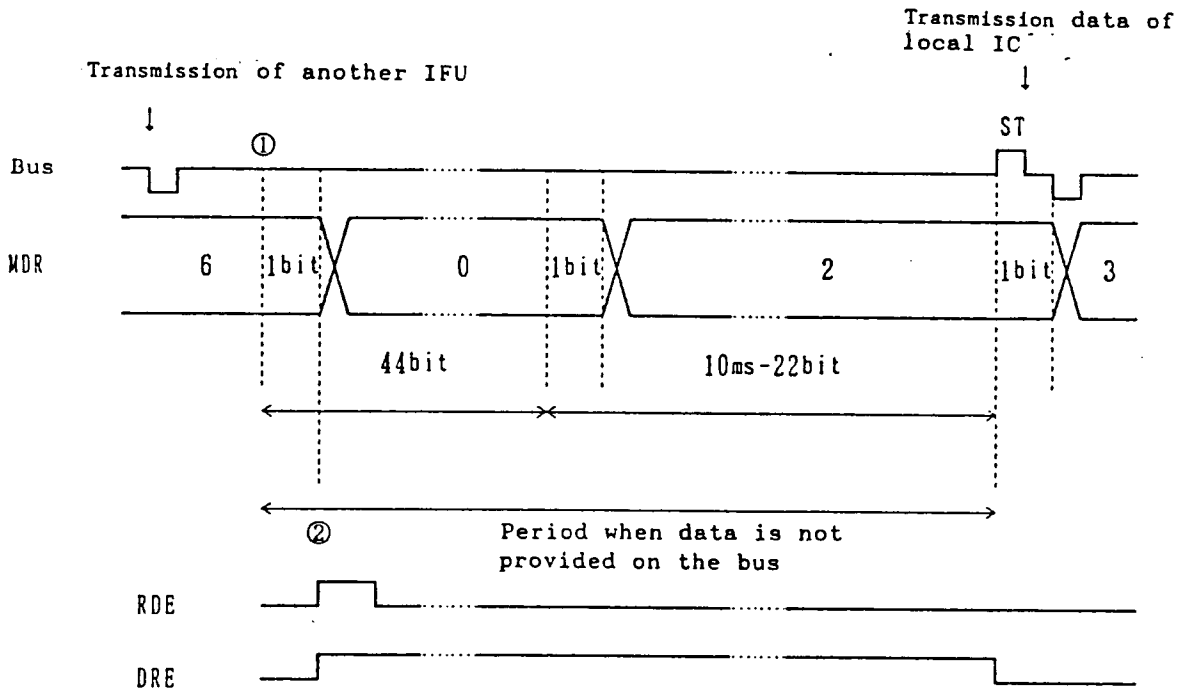

Figure 4.10 When the message is smaller than the message length
Figure 4.10 shows a case that the message is smaller than the message length. This figure shows a case that the state counter is "6" and next data has not come (Figure 4.10 ①).
In this case, a received data error occurs at Figure 4.10 ② and the synchronization recovery period is started. The pause period (10 ms + 22 bits) is started from Figure 4.10 ①. Sending is not performed in the synchronization recovery period even though transmission data has been set. Data is sent after synchronization recovery.